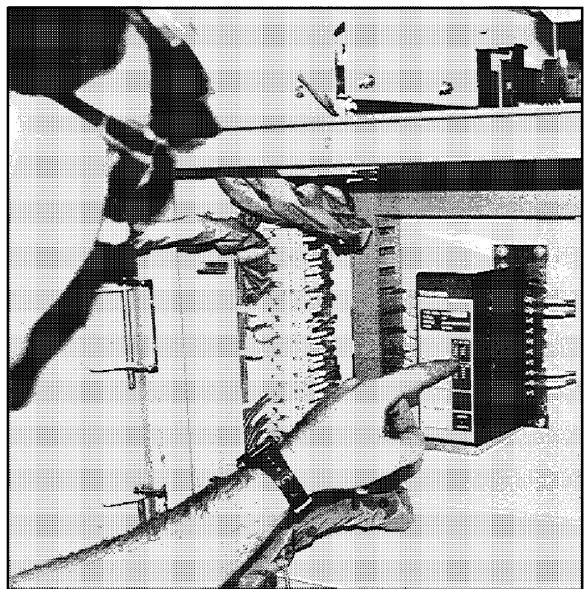

Fig. 44 Overload Setting Check
- ☐ Overload relays should be checked to be sure they are selected and adjusted to the proper settings per the load nameplate data (Fig. 44).